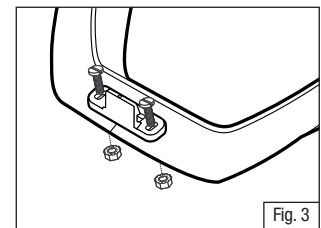

Fig. 3
6. Attach the latch to the jaw using the black slotted 4-40 screws and Keps nuts. Adjust the position of the latch back and forth for the amount of engagement desired to hold the wide view frame down. Tighten the two screw/nut assemblies down. (Fig. 3)